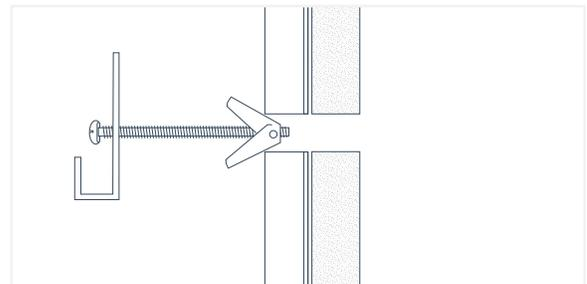

Fig. 51
2. Put the bolt through whatever mounting device you are using and ensure the end of the bolt is screwed into the center of the toggle so that the wings can be folded down on to the threads of the bolt (Fig. 51).